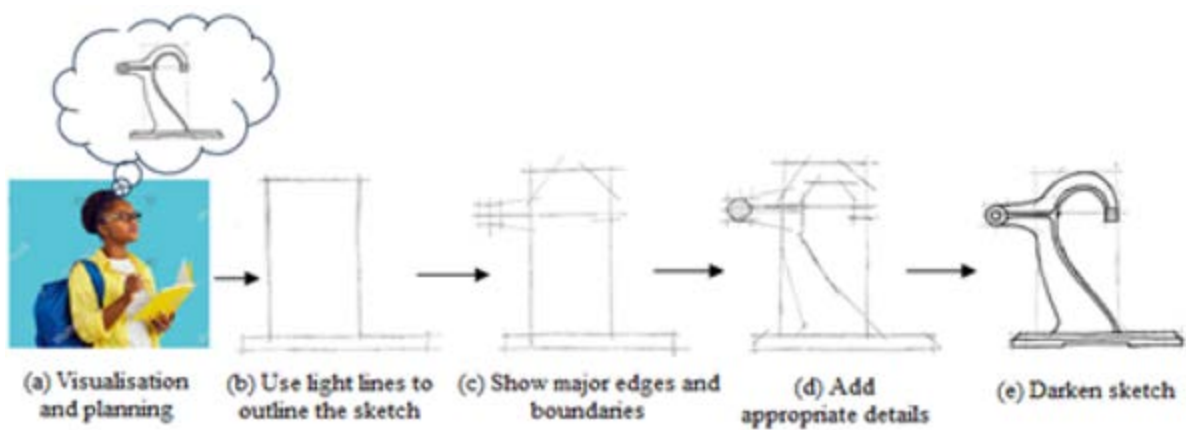

Fig. 3.30: Steps for making freehand sketch of an idea (Teachers Manual)
5. Shape the sketches: This is done by adding appropriate details and darkening object lines. The steps above are illustrated in Fig. 3.30.